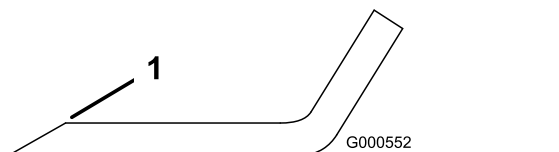

Figure 99
1. Use a file to sharpen the cutting edge at both ends of the blade (Figure 99).
**Note:** If the blade is not balanced, file some metal off the end of the sail area only (Figure 99).